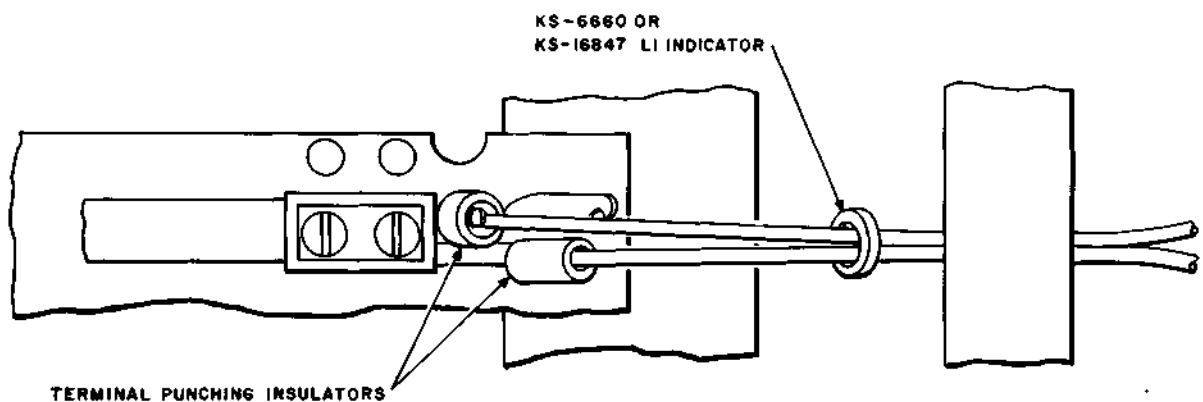

Fig. 26—Indicator and Terminal Punching Insulators on Protector Mounting
16.06 Particular care should be exercised when working on or near certain special lines such as telegraph loops, fire and police alarms, radio broadcast lines, private lines, carrier circuits, etc. Serious trouble may result from a momentary cross or short circuit on some of these lines and, therefore, ***not even a hand test set or a receiver should be connected to the terminals associated with lines of this nature.*** These special lines should be designated on the vertical and horizontal side of the frame by means of the KS-6660 or the KS-16847 L1 indicators and protected at terminal strips and protector terminal punchings with insulators such as the No. 4, 5, 7, 8, and 9. The No. 8 and 9 insulators are intended for use on terminal strips where terminal spacing and wire build-up create an installation problem for the No. 4 and 5 insulators. (See 16.07, 16.08, and 16.10.) The KS-6660 or the KS-16847 L1 indicators should be located between the fanning strip and the terminals. (See Fig. 26 through 29.)